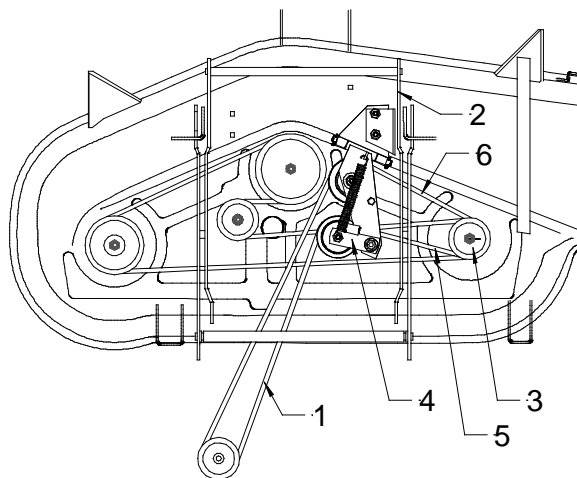

Figure 4
1. Install the mower on tractor if it is not installed. The V-belt should be routed under the linkage to the top pulley of the blade spindle and the rear portion of belt on the middle of both idler pulleys. Leave the front portion of belt loose under the front V idler (fig. 4).
2. Route towards the back to the top of the double pulley mounted on the tractor's left side axle (fig. 4).
3. Slide a large screwdriver or a pry bar, in the tube welded on the flat idler arm and pull forward to release the idler tension and at same time route the V-belt around the V idler pulley (fig. 4).
4. Be sure the belt is routed properly before starting the mower (fig. 4).